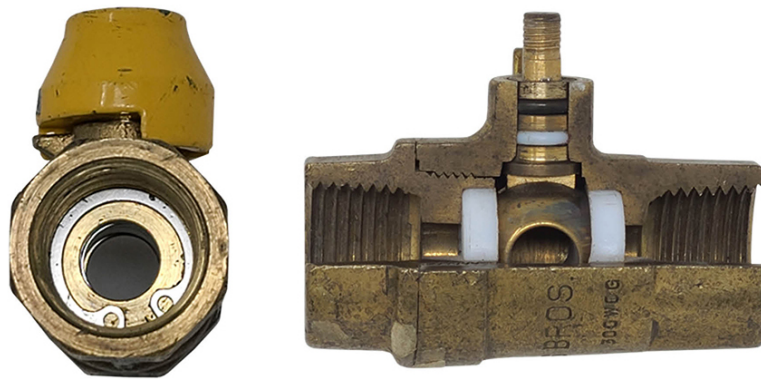

Figure 4. two-piece valve (left). One-piece valve (right)
The valves are often constructed with a two-piece body in which the two threaded halves hold the ball and seats in place. Smaller valves may be of a one-piece body design, which use a retaining clip and washer to hold the ball and seats in place (Figure 4).
- Figure 4. “Two-piece valve (left). One-piece valve (right)” by Rod Lidstone is licensed under a CC BY-NC-SA licence.